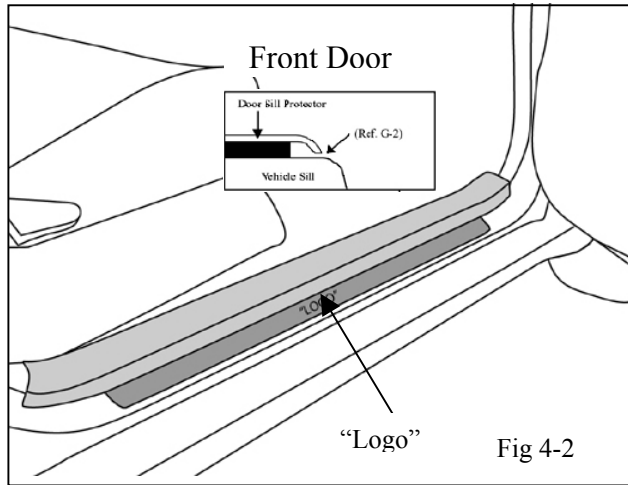

Fig 4-2
- (d) Front / Rear - The vehicle name "Logo" must be right reading from outside the vehicle. (Figs 4-2 & 4.3)
- (1) If necessary, the part can still be repositioned at this time.
- (1) Use firm, even pressure.
- (2) The bottom edge of door sill protector should not contact the vehicle. (Inset in Figs 4-2 & 4-3)